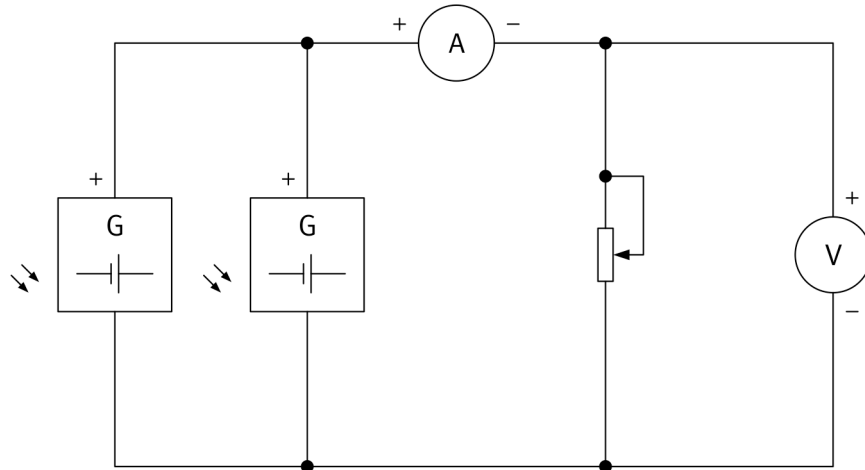

Figure 37. Circuit used to determine the characteristic  $U$ - $I$  curve of two PV modules connected in parallel.
24. Connect the circuit shown in Figure 37.